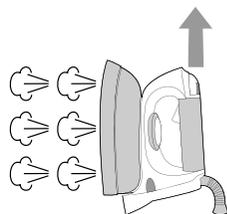

Fig 5
- Push the locking device button to the release lock as fig 5.